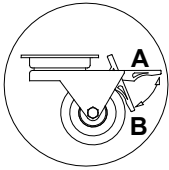

Fig.6 Wheel system, moving system
- The device should be placed on an even and on a sufficiently hard base, and then level it with the help of levelling feet. In case of moving devices it is necessary to immobilise wheels in order to prevent their movement during exploitation Fig.6 (p.16)!